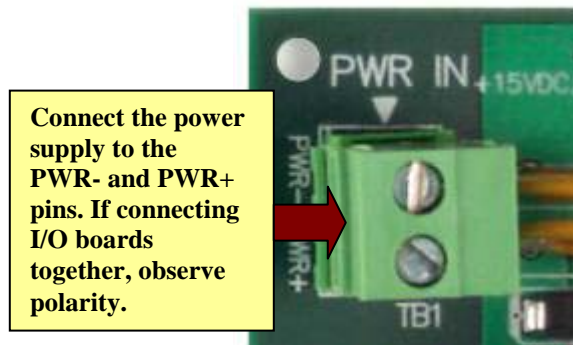

Figure 6: Power Connection on Expansion Boards
Step 1: Connect an 18AWG wire from the power supply to the PWR+ and PWR- pins (Figure 6) on the expansion board.